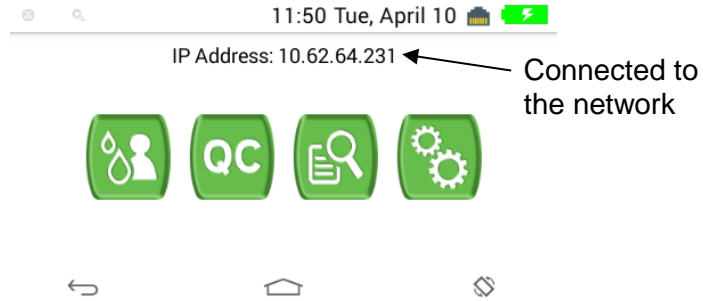

Figure 23 – An IP address on the Home screen indicates a network connection
- If the instrument is connected to the network, the IP address is displayed. Otherwise, **IP Address: N/A** is displayed. See Figure 23.